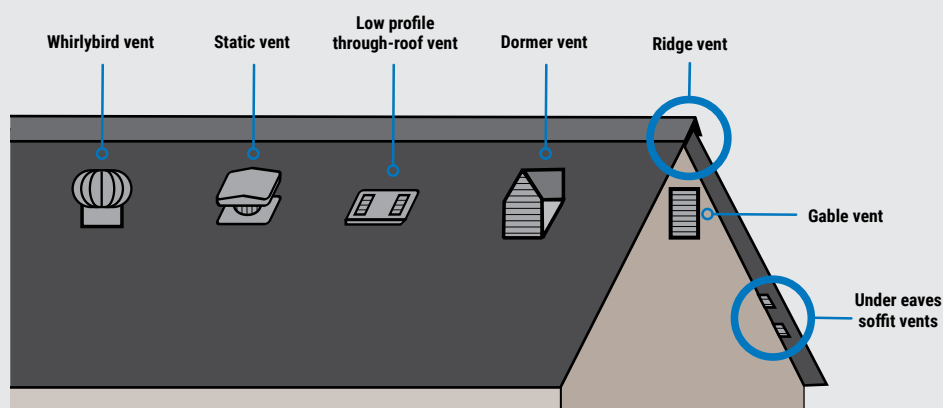

Figure 9: Common types of roof venting
- With roof ventilation openings like gable and roof vents, fit them out with ember guards made of non-combustible material or a mesh or perforated sheet that is made of corrosion-resistant steel or bronze, or is fire rated. Mesh screens should have a maximum opening of 6 mm at all vent openings and vent openings should have a maximum net free area of 0.1 m2 (see figure 9, over the page).